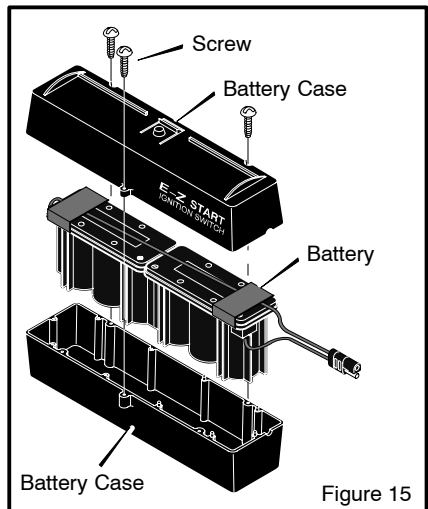

Figure 15
3. To open the **battery case**, remove the three screws. Remove the **battery** from the **battery case** (Figure 15).